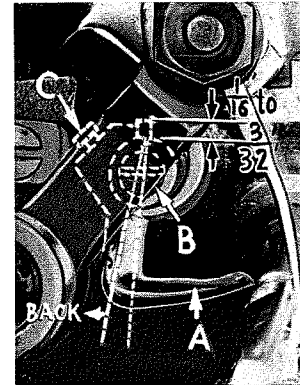

Fig. 7A
Insert the upper looper (A, Fig. 7A) in its holder. Screw (B) holds upper looper in its holder, and permits it to be pushed in or out or turned around its shank. Insert upper looper holder into upper looper shaft, if it is not already in place. Screw (C) on clamp holds the upper looper holder in the shaft. Locate the upper looper in its holder so that the shank extends $1/16$ to $3/32$ inch beyond holder (Fig. 7A).
When the upper looper is at the right end of its stroke, upper looper holder should be set to position upper looper shank back of vertical (Fig. 7A), but be sure there is a clearance between heel of looper and casting. Now, by adjusting looper holder in or out of upper looper shaft and by turning the looper around its shank, set upper looper point to cross lower looper to the left of the lower looper eye with .002 to .004 inch clearance (Fig. 8A).
Check the setting to avoid interference between the upper looper and the needle on the needle downstroke. If the needle rubs the back of the upper looper, pull the looper out of its holder slightly to reduce the $1/16$ to $3/32$ inch dimension (Fig. 7A) and rotate the looper a short distance counterclockwise, looking from the left end of the machine. Reset to maintain the dimensions of Figures 8A and 9A.